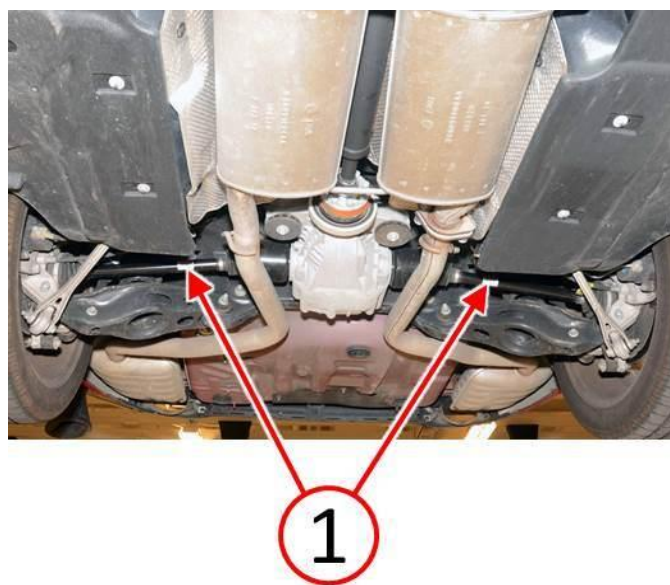

Fig. 1 Identification Label Location
1. **Raise the vehicle and locate the axle shaft identification labels (1) (Fig. 1). Refer to the detailed service procedures available in DealerCONNECT> TechCONNECT under: Service Info> 04 - Vehicle Quick Reference> Hoisting> Standard Procedure.**